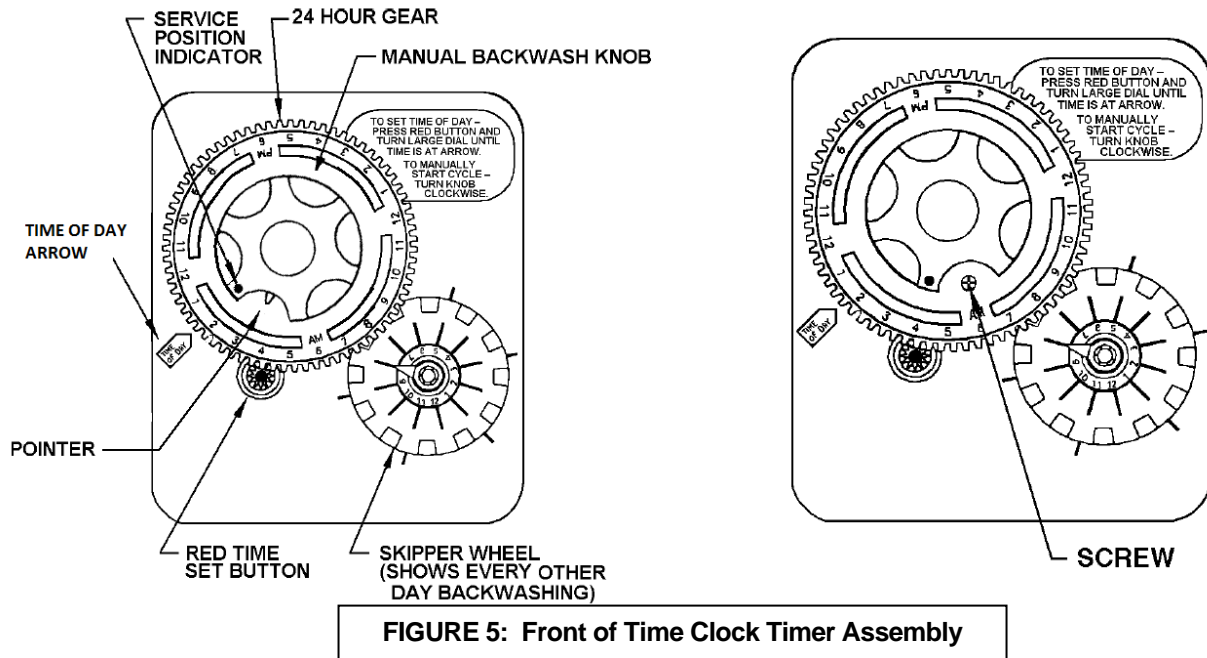

FIGURE 5: Front of Time Clock Timer Assembly
- FSN:** Slowly rotate the Manual Regeneration Knob (see Fig. 5, page 7) clockwise until two clicks are heard. This is the “BACKWASH” position.
- STEP 16:** Set the current time of day on the timer (note AM and PM) (refer to Fig. 5).